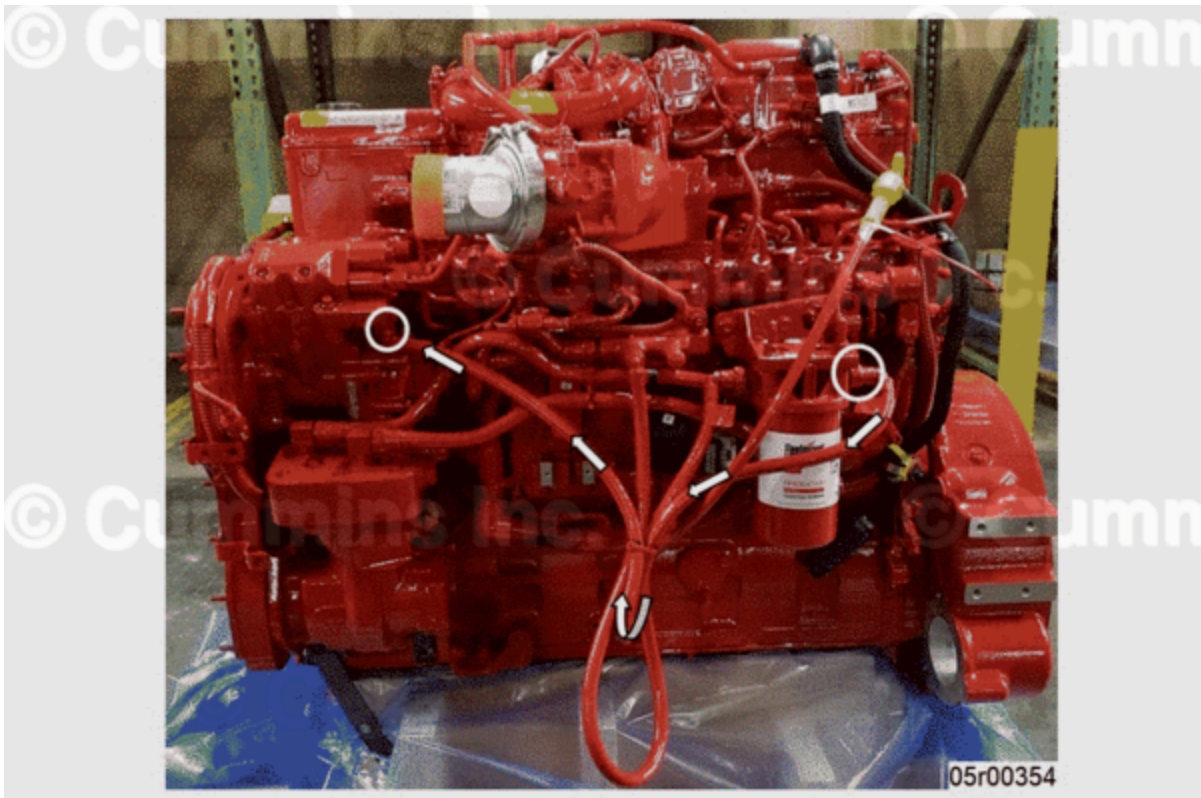

Figure 3, Indication of Fuel Filter Outlet and Fuel Pump Inlet Connection Points.
- Figure 3 below indicates the fuel filter head outlet and fuel pump inlet connection points.